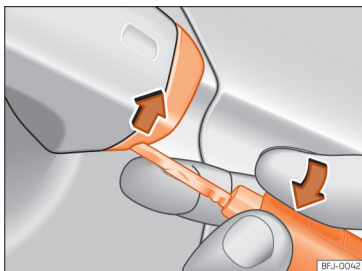

Fig. 90 Driver door handle: lever the cover off
- Insert the key shaft into the lower opening in the cover on the driver door handle »» Fig. 90 then remove the cover upwards.